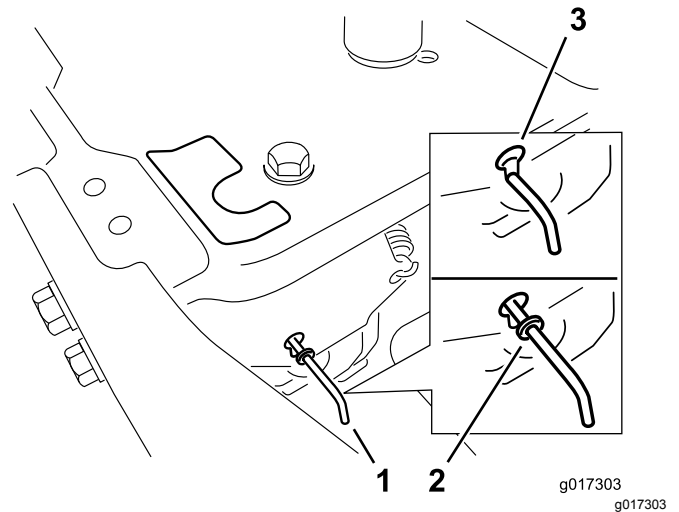

Figure 22
4. Move the bypass levers forward through the key hole and down to lock them in place as shown in Figure 22. Ensure this is done for each lever.
Move the bypass levers rearward through the key hole and down to lock them in place as shown in Figure 22. Ensure this is done for each lever.